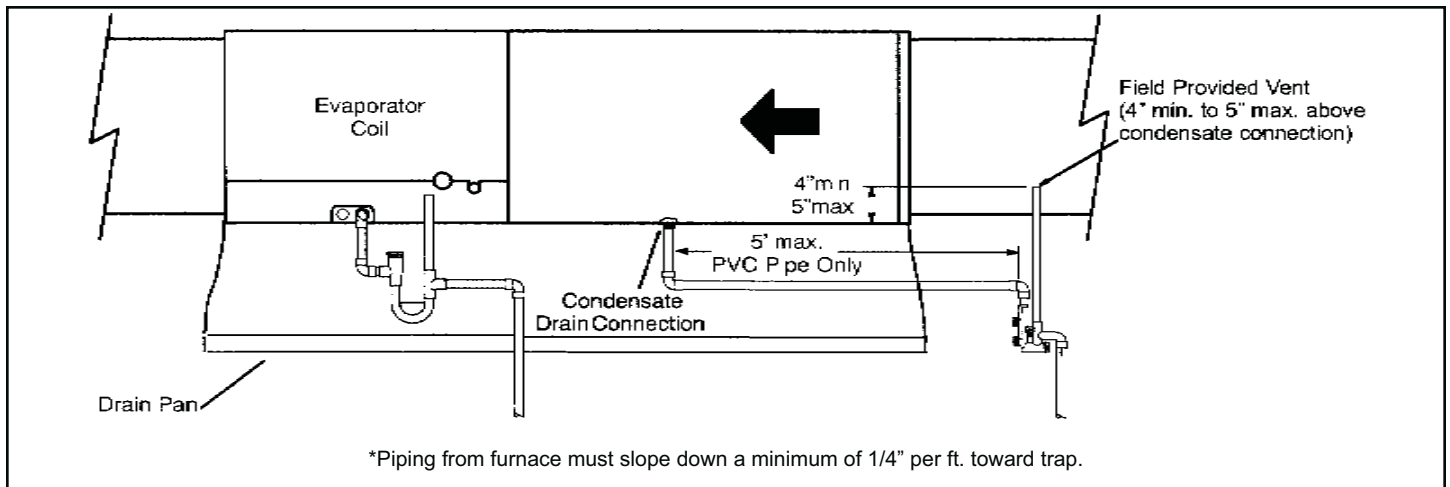
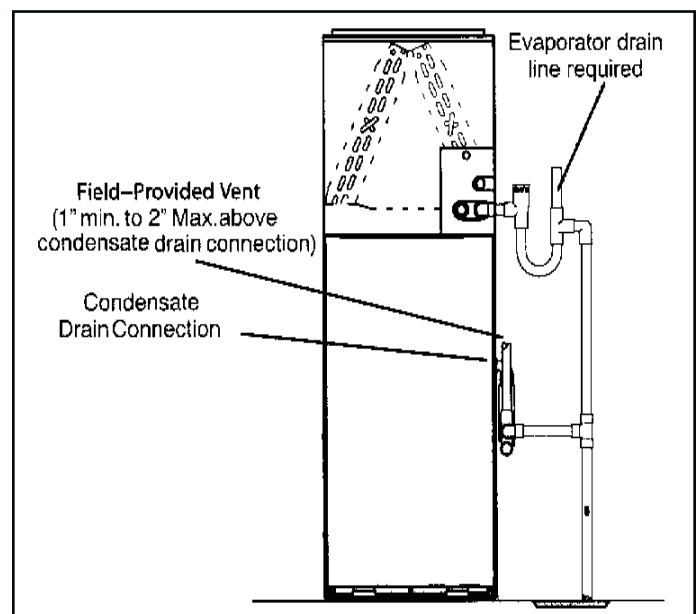

Figure 55. Evaporator Coil Using a Separate Drain
Figure 57. Evaporator Coil Using a Common Drain
5. Figure 54 and Figure 55 show the furnace and evaporator coil using a separate drain. If necessary the condensate line from the furnace and evaporator coil can drain together. See Figure 57 and Figure 58.
Horizontal furnace (Figure 55) - In horizontal furnace applications the field provided vent must be minimum 4" to a maximum 5" length above the condensate drain outlet connection. Any length above 5" may result in a flooded heat exchanger if the combined primary drain line were to become restricted.